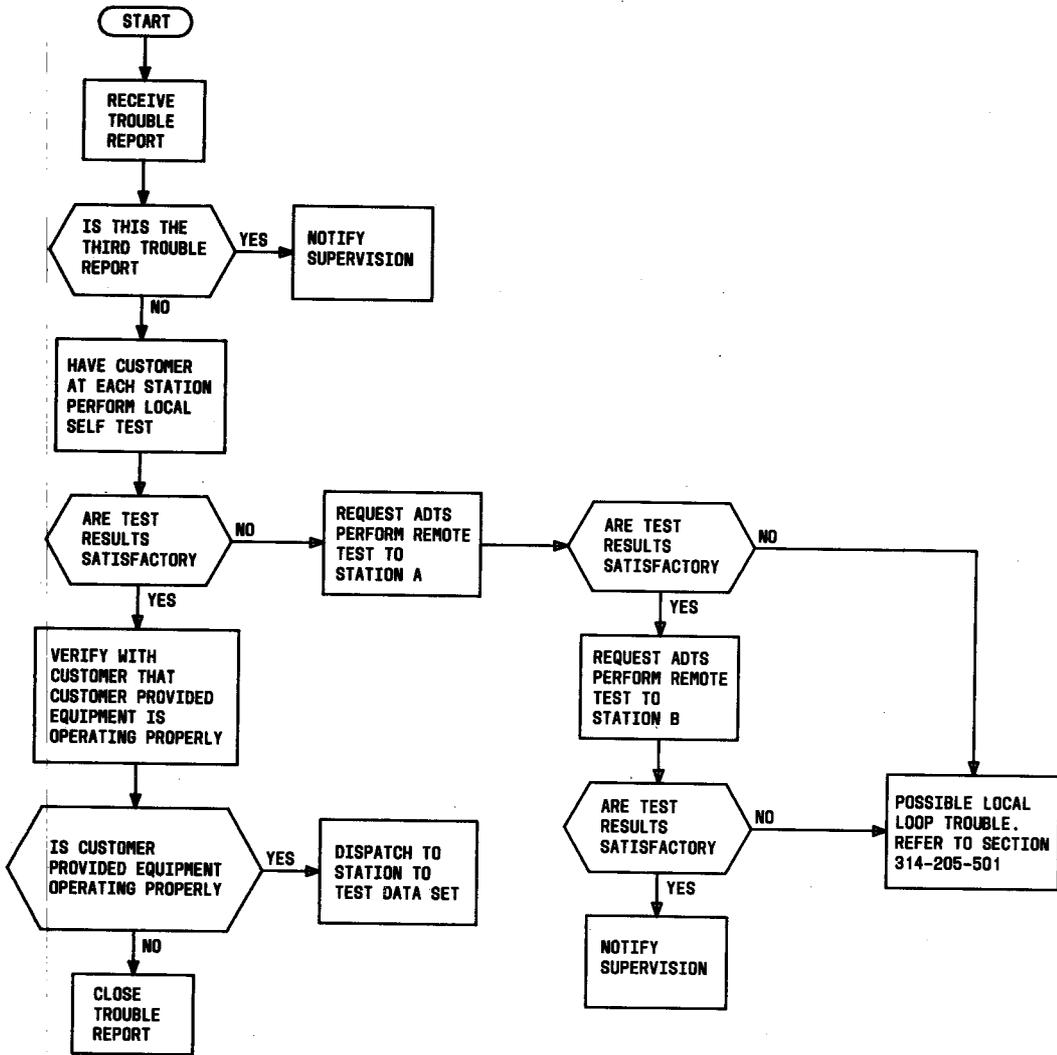

Fig. 2—Clearing Trouble Report
**3.02** When a trouble report is received, a test center or ADTS is responsible for isolating the trouble to the data station or the transmission facility. The procedure for doing this is shown in Fig. 2.